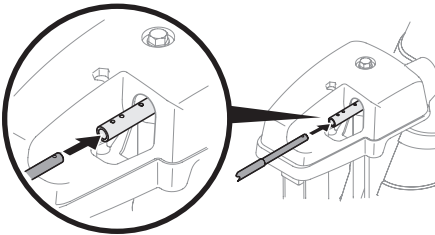

Figure 20
2. Insert chute control rod into chute control head. Push rod as far into chute control head as possible, keeping holes in rod pointing upward (Figure 20).